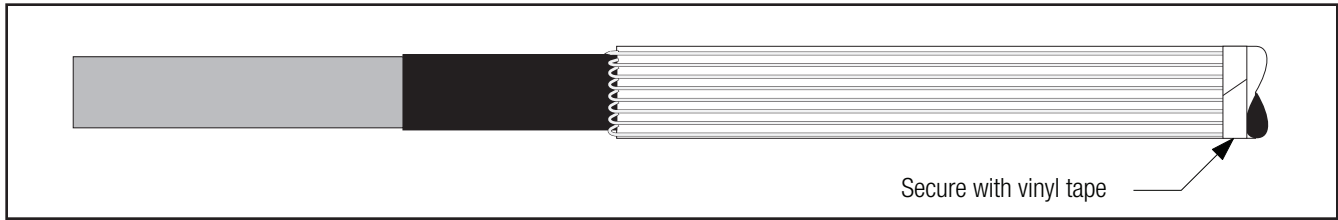

Figure 2
- 2.3 **For JCN or CN splices with exposed neutral connections:** Carefully bend the neutral wires back over the edge of the cable jackets (JCN) or binding wire or tape (CN). Press them against the cable and temporarily secure/cover the end of the wires with vinyl tape (*Figure 2*).